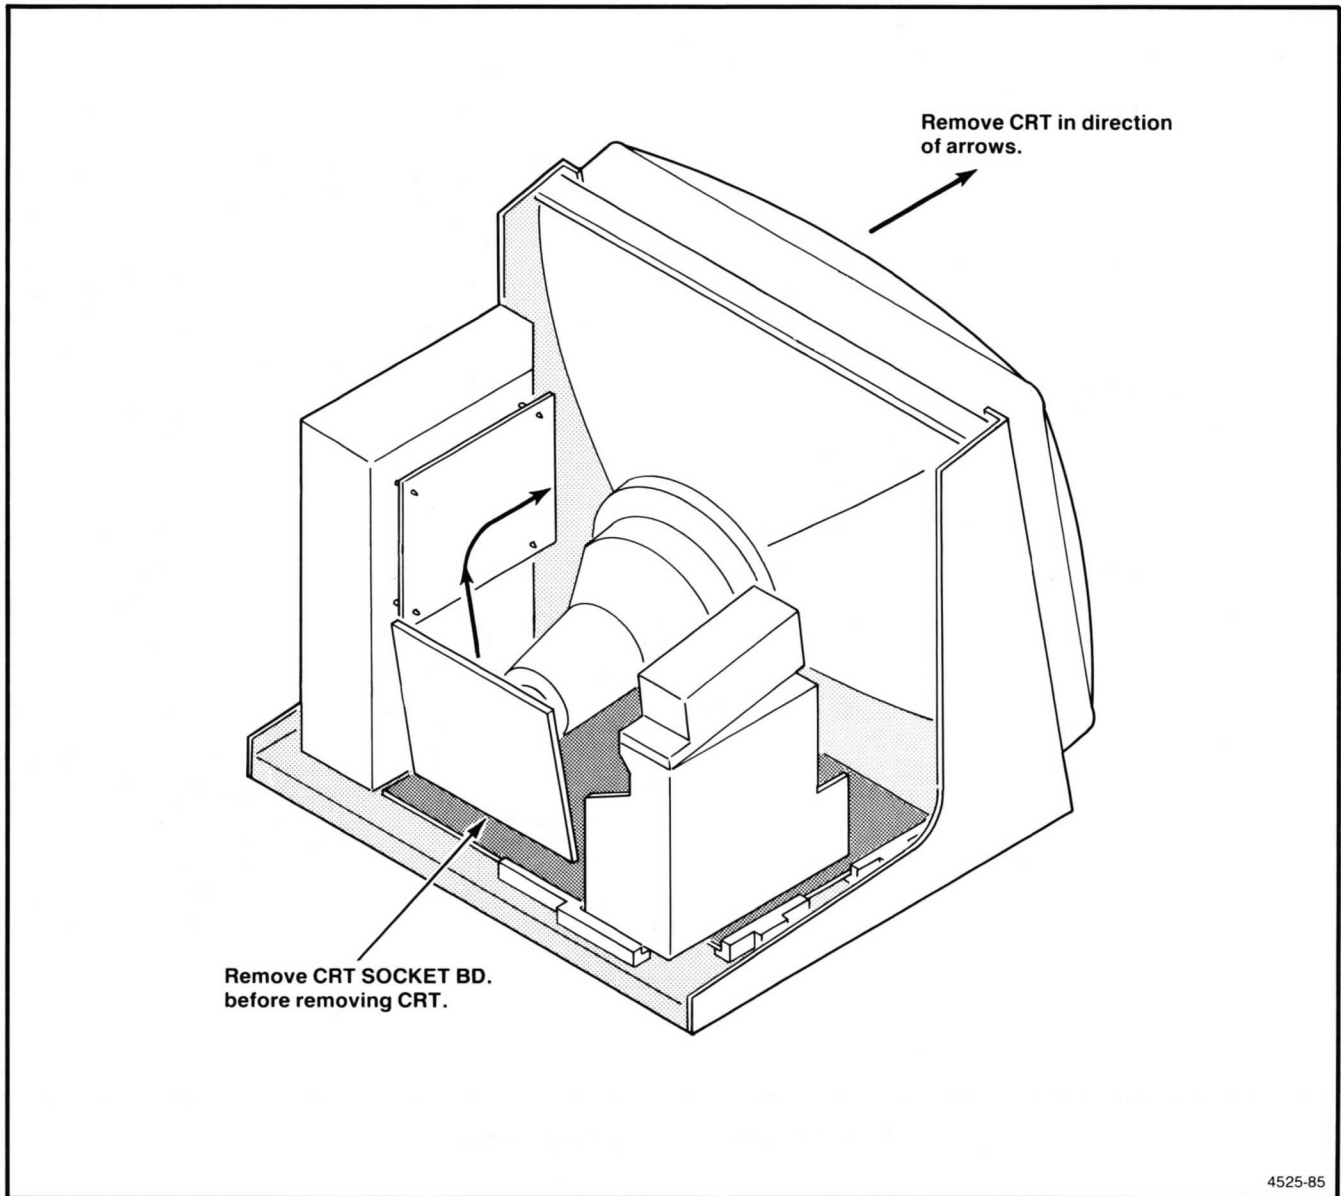

Figure 6-9. Removing the CRT.
8. Rock the CRT forward as indicated in Figure 6-9. Then pull the CRT out of the front of the Display Module, and lower it onto the protective pad.